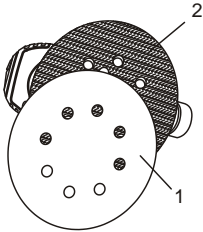

Fig. 4
To install a sanding disc, firmly press the sanding disc (1) onto the hook & loop pad (2) (Fig. 4).